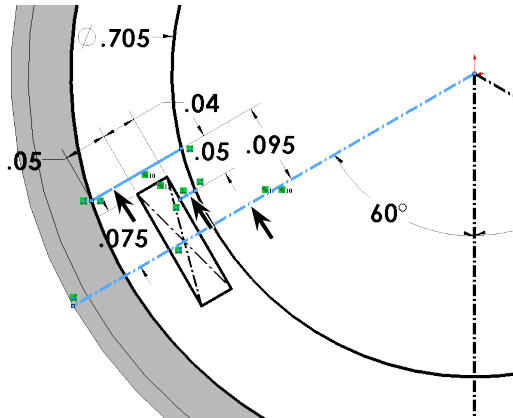

Fig. 23
Step 25. **Ctrl click the two lines and angled centerline** to select, **Fig. 23**.